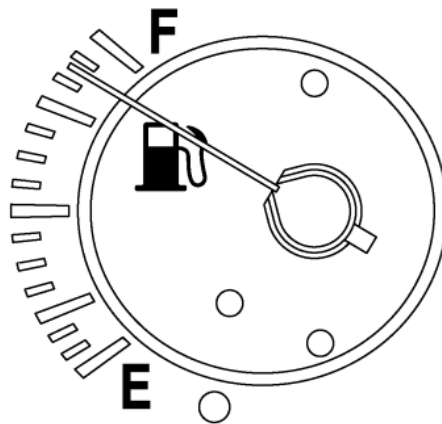

Figure 1
3. It is recommended to install this kit when the Fuel Tank **IS NOT** full. If the Fuel Gauge indicates that the tank is over 3/4 full, as shown below in *Figure 1* below, drain some fuel before continuing (or drive the vehicle). The Fuel Tank does not have to be empty, but the less fuel in the tank the cleaner the installation will be.